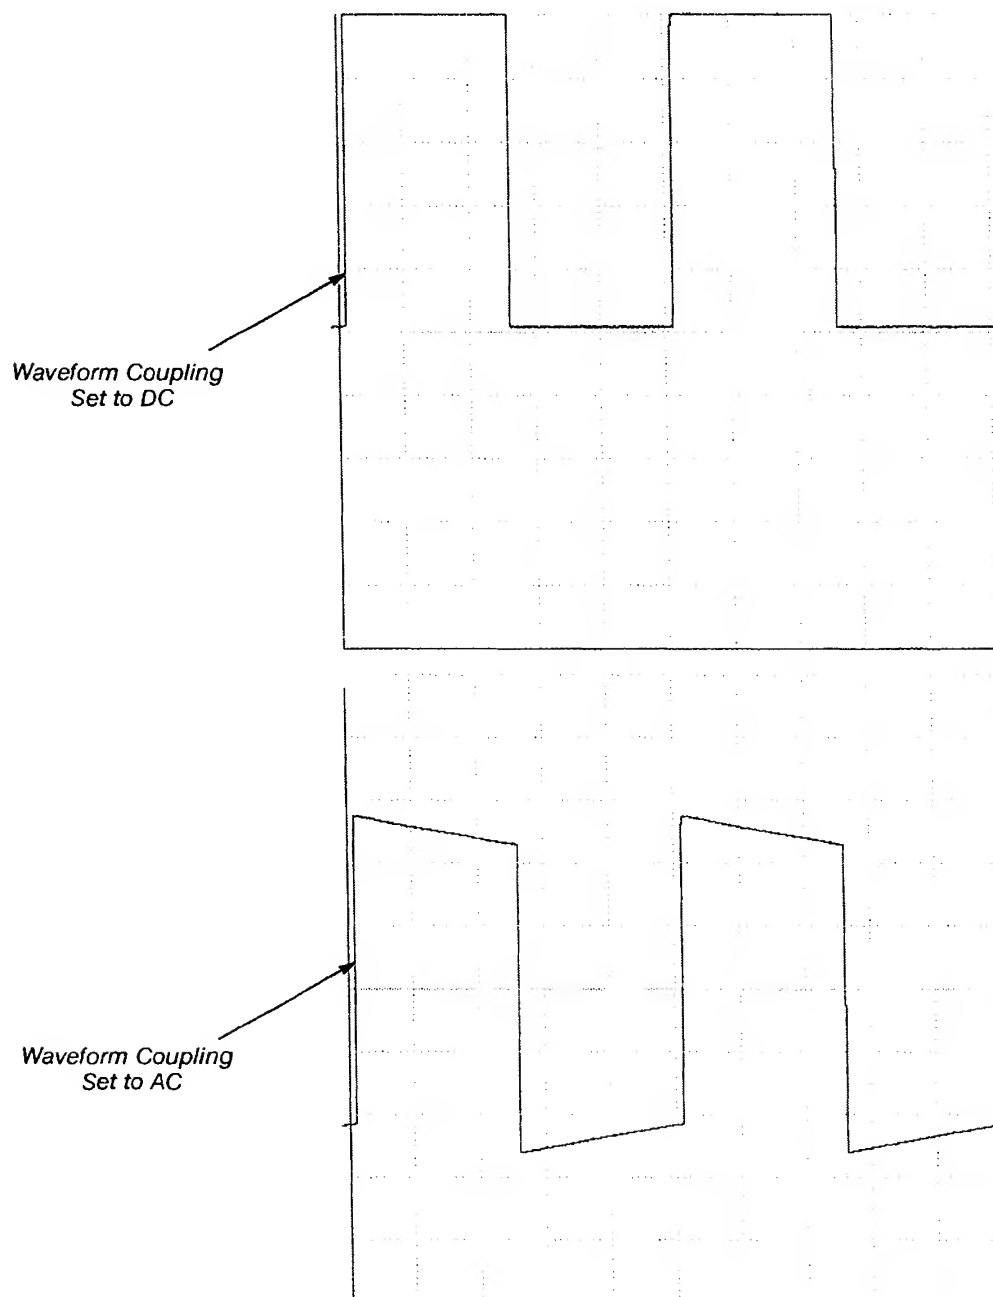

Figure 2-3 — Waveform with DC Coupling (Top) and AC Coupling (Bottom)
The waveform is vertically centered on the screen and resembles Figure 2-3.
- ☐ Step 2: *Examine* that the bottom of the square wave is near the center graticule line as shown at the top of Figure 2-3.
- ☐ Step 4: *Examine* that the displayed waveform is vertically centered and that it resembles the bottom waveform in Figure 2-3.